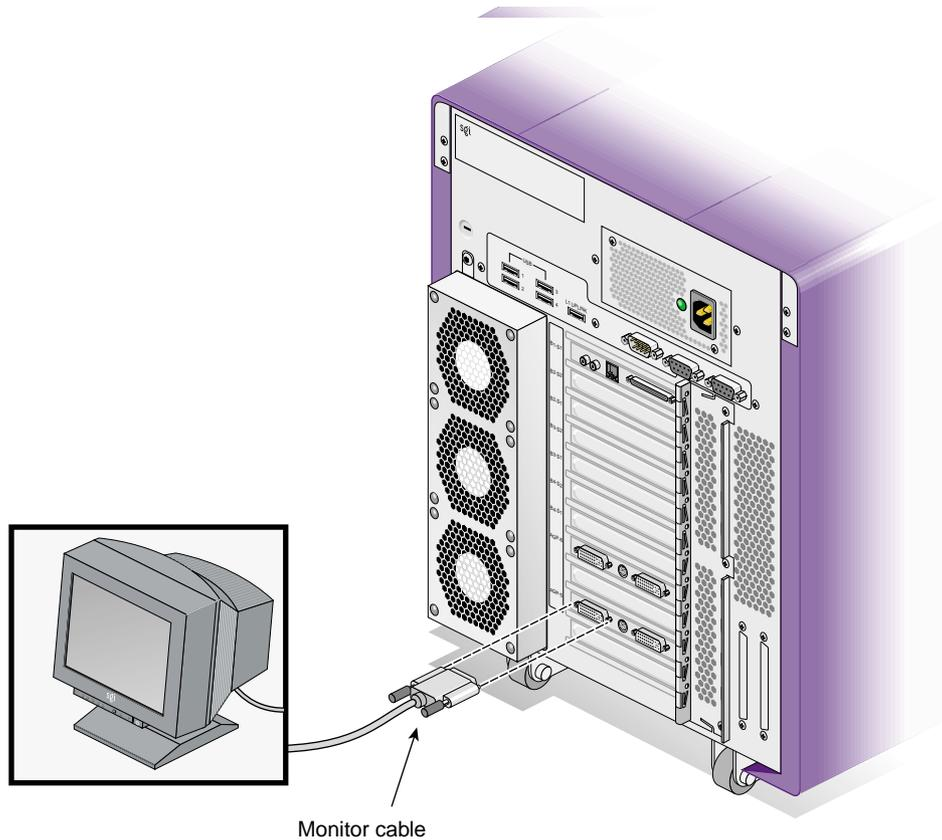

Figure 1-7 Connecting the Monitor Cable Example
3. Connect the monitor cable, as follows (see Figure 1-7):